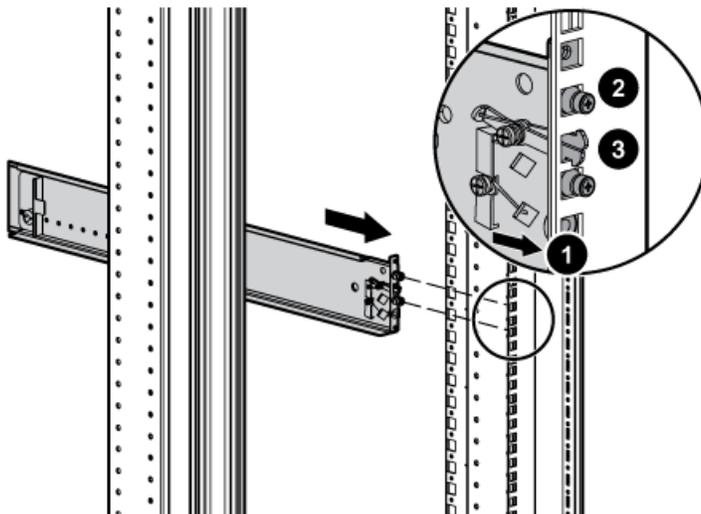

Figure 6 Attaching the front rail
2. On the front of the rail, pull the locking latch to release the scissor latch (1, Figure 6) and squeeze the scissor latch together to insert the rail and pins through the rack upright holes (2) until the latch engages (3).